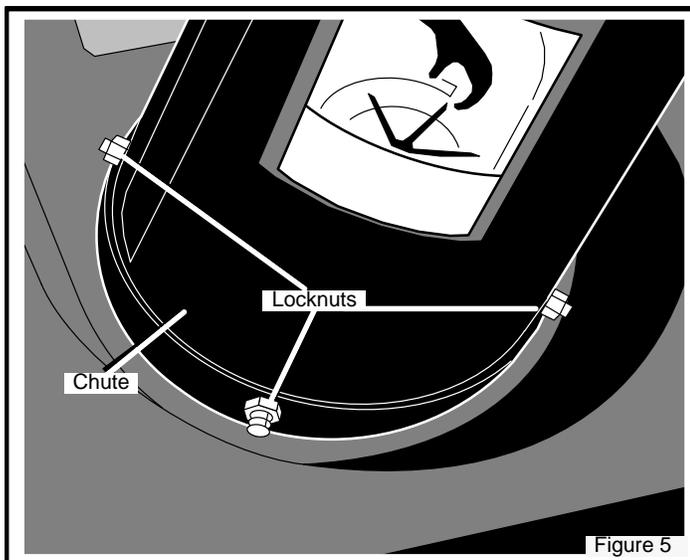

Figure 5
1. Remove the three bolts and **lock nuts** from the chute base (see Figure 5).